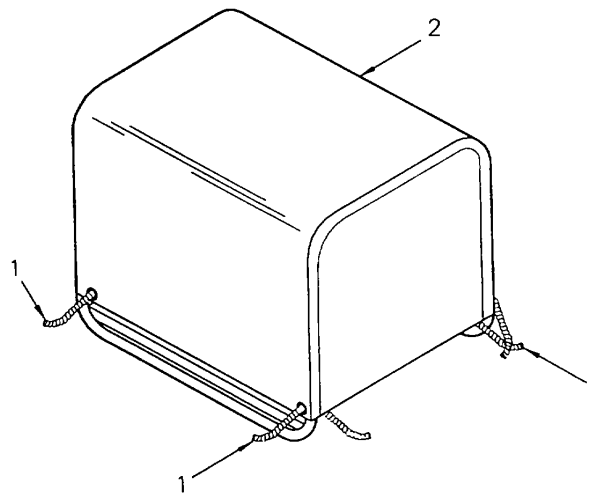

Figure 4-16. Cover Assembly
(1) Untie and remove four ropes (1, Figure 4-16) from cover (2).
(2) Remove cover (2).